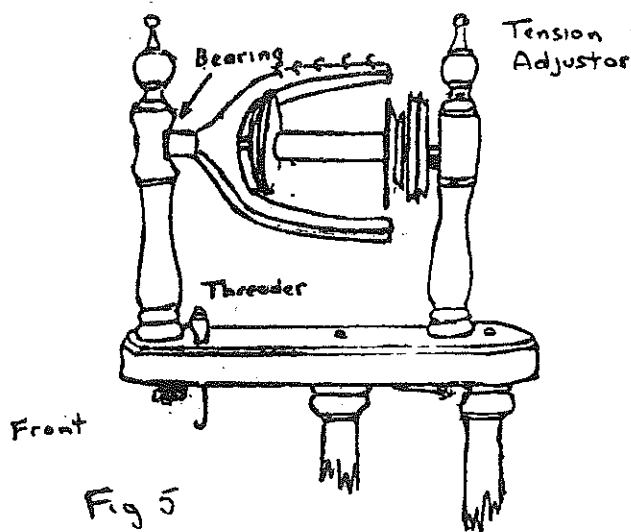

Fig 5
(See Fig 5)
8. Final adjustments. Screw the 10 hooks into the flyer, assemble a bobbin on the flyer and add on the pulley. The flyer assembly may now be fitted between the bobbin uprights by pushing the back end into the rear adjustable bearing. This allows the front end to slip into the front bearing. Adjust the rear knob until the bearing block is near the bottom of the slot (See Fig 5)